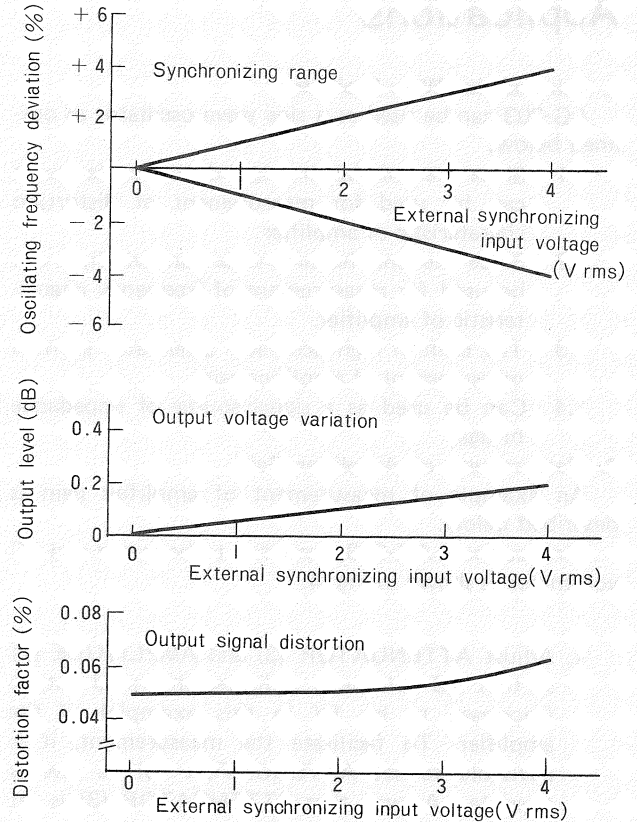

Fig. 3
By applying an external sine wave signal to SYNC terminal (11), the oscillating frequency of AG-203 can be synchronized to the external signal. The synchronizing range is increased in proportion as the input voltage is increased as shown in Fig. 3, indicating that the synchronizing range is about  $\pm 1\%$  per input voltage of 1V.